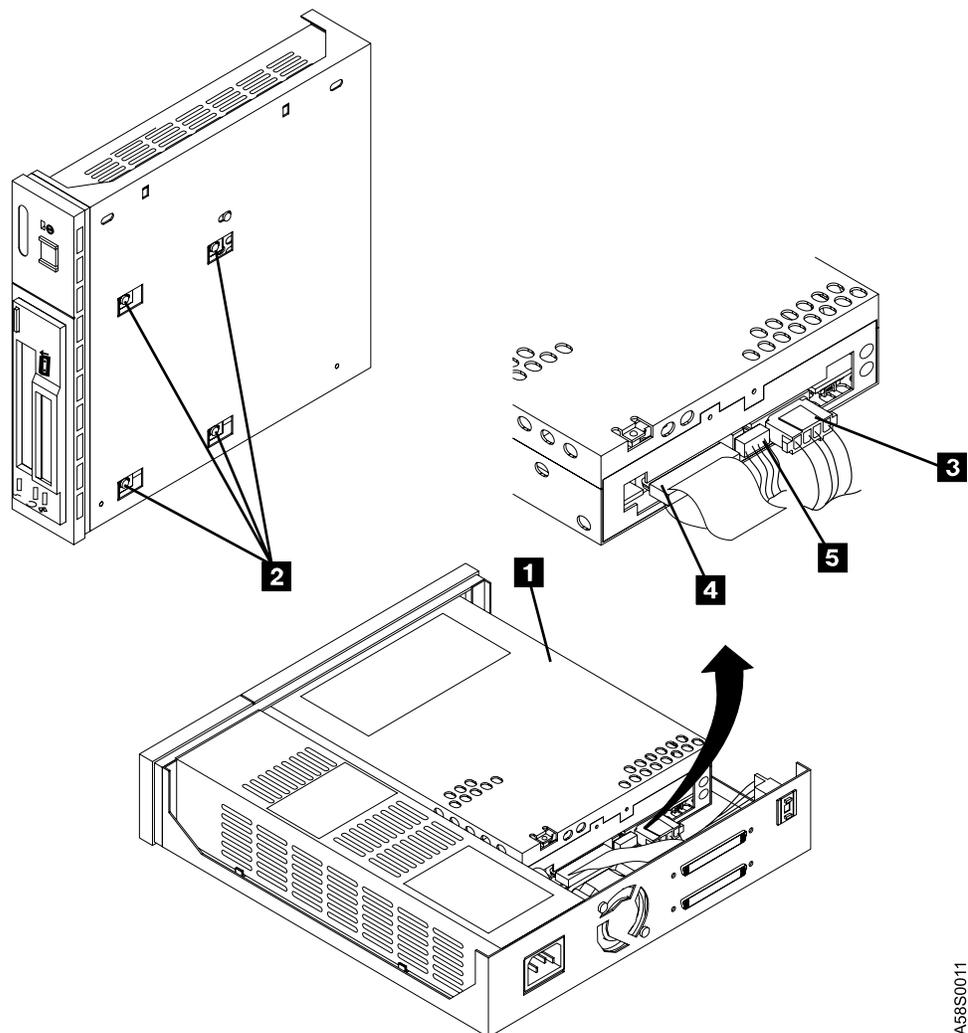

Figure 12. Removing and Replacing the Drive
2. Tilt the 7208 Tape Drive on its side. Support the drive ( **1** in Figure 12) while removing the four screws **2** that secure the drive to the chassis.
- After installing the cover, align the drive with the front of the cover, then tighten the four screws ( **2** in Figure 12 on page 27) that secure the drive to the chassis.